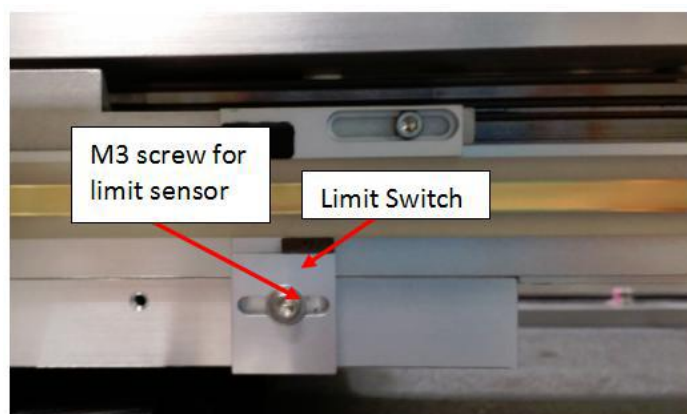

Figure 13 Limit Sensor for X-Axis
10. Loosen the M3 screw of the limit switch as shown in Figure 13.
11. Adjust the limit switch shown in Figure 13 until the Home Sensor status become “High” at the Motor Summary as shown in Figure 14 and Figure 15.
12. Once the limit switch condition is acquired, tighten back the M3 screw for the limit sensor screw as shown in Figure 13.